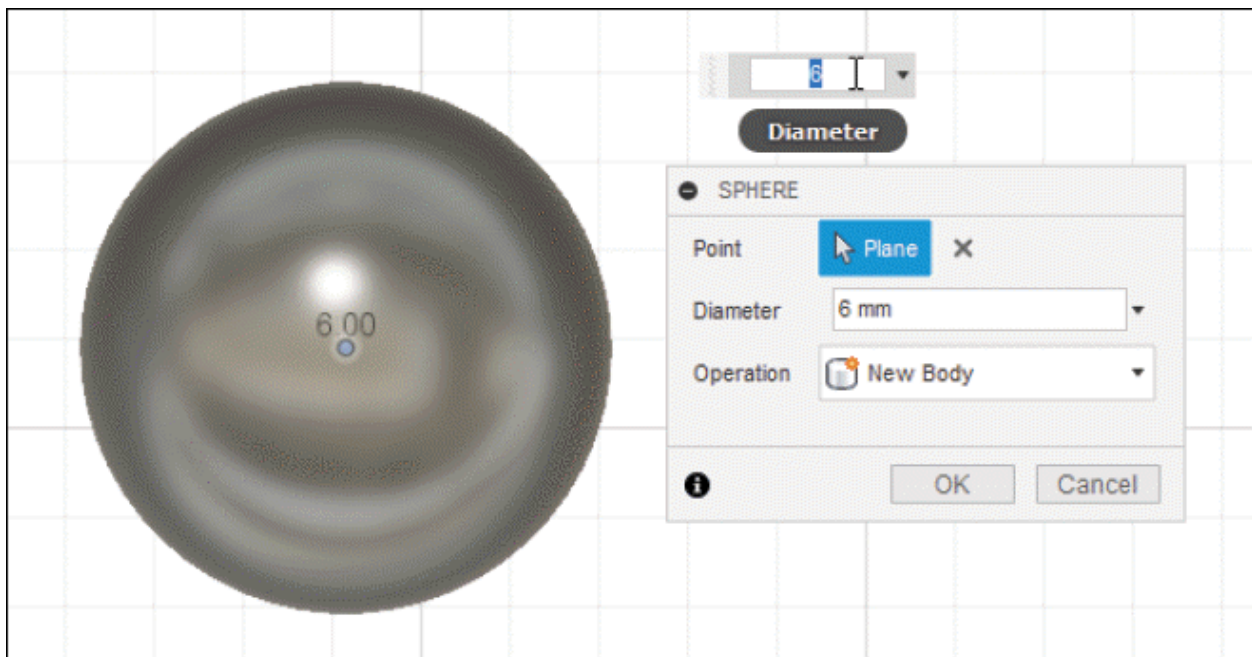

Figure-68. Preview of sphere with SPHERE dialog box
- Click on the screen at desired location to specify the center point of sphere. The **SPHERE** dialog box will be displayed along with the preview of sphere; refer to Figure-68.